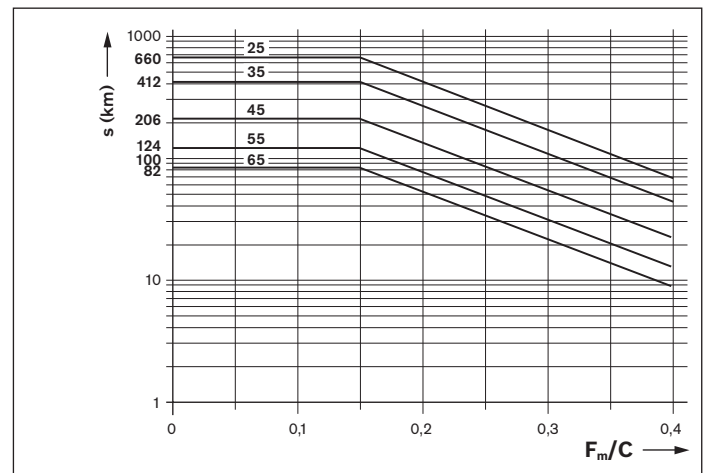

Fig. 2: Relubrication interval
- Apply the minimum quantity according to table 4 at the lube connection until the relubrication interval (figure 2) has been reached.
- Apply the minimum quantity according to table 4 for each lube connection until the relubrication interval (figure 2) has been reached. The number of pulses required for this purpose and the lubrication cycle are to be determined in a similar way as the relubrication (normal stroke).
Notes: The number of pulses that is needed for this is the integer quotient of the minimum relubrication amount according to table 4 and the selected piston distributor size according to table 5. The smallest permissible piston distributor size does not depend on the installation position. The lubrication cycle according to formula 1 is the result from the division of the relubrication interval (according to figure 2) by the determined number of pulses (cf. sizing example).